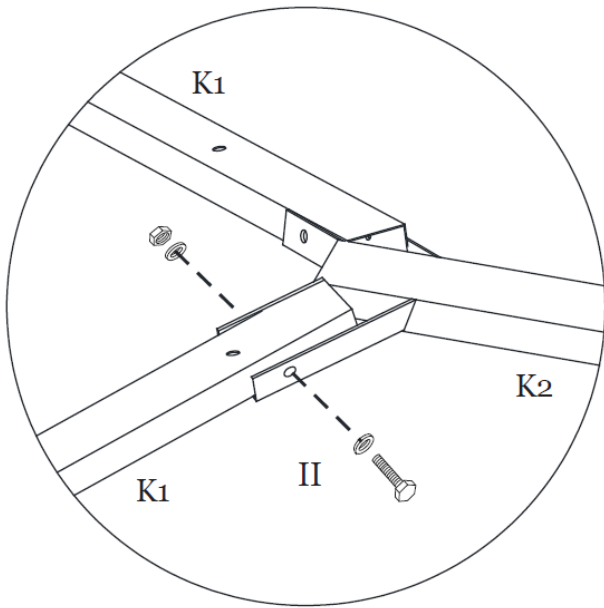

Figure 8-1
Step 8A: Assemble the Roof Vent Frame by attaching Roof Vent Corner Support (K1) to Roof Vent Center Support (K2) using Bolts (II). See Figure 8-1.